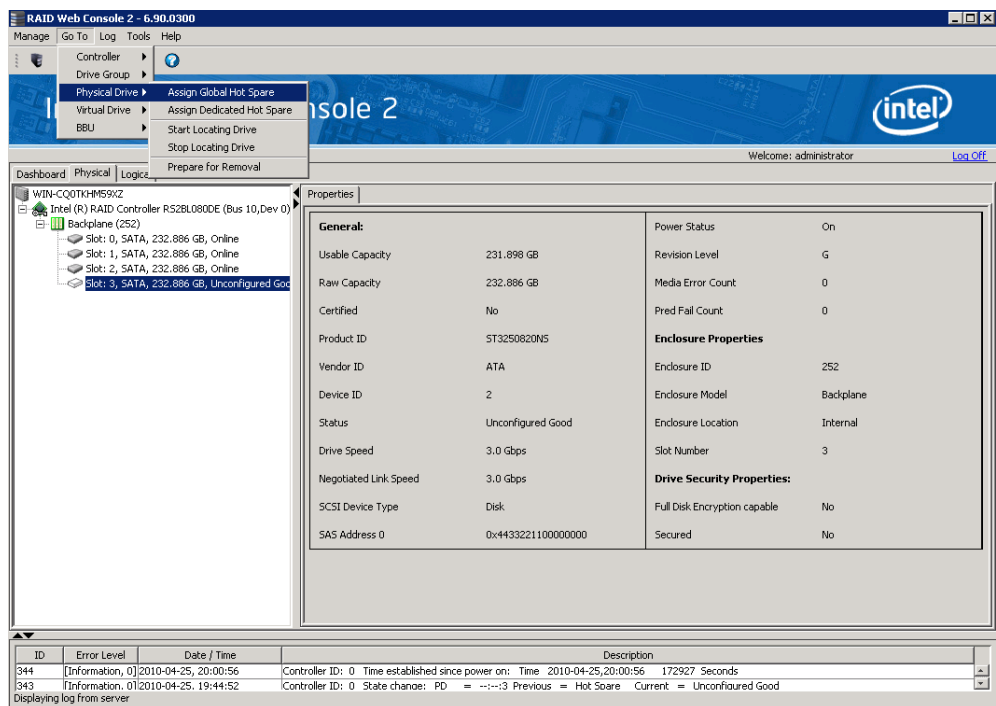

Figure 66. Assign Global Hotspare
2. In the Menu, click the **Go To -> Physical Drive** tab and select **Assign Global Hot Spare**, as shown in Figure 66.